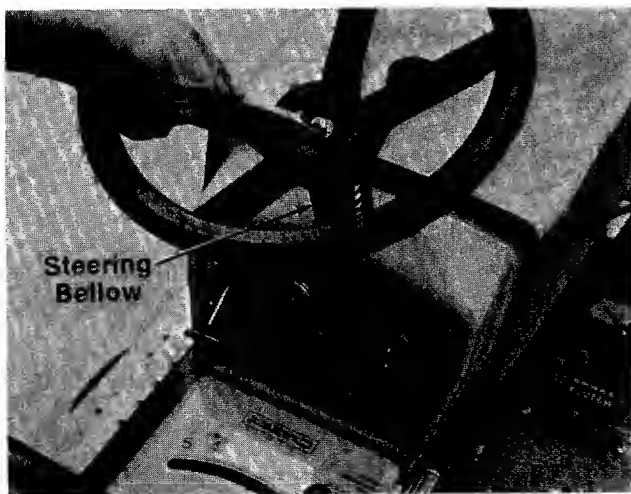

FIGURE 15.
3. Secure with belleville washer (B) (cupped side against the steering wheel) and hex nut (C). See figure 15.
4. Press the steering wheel cap (A) on the steering wheel by hand.